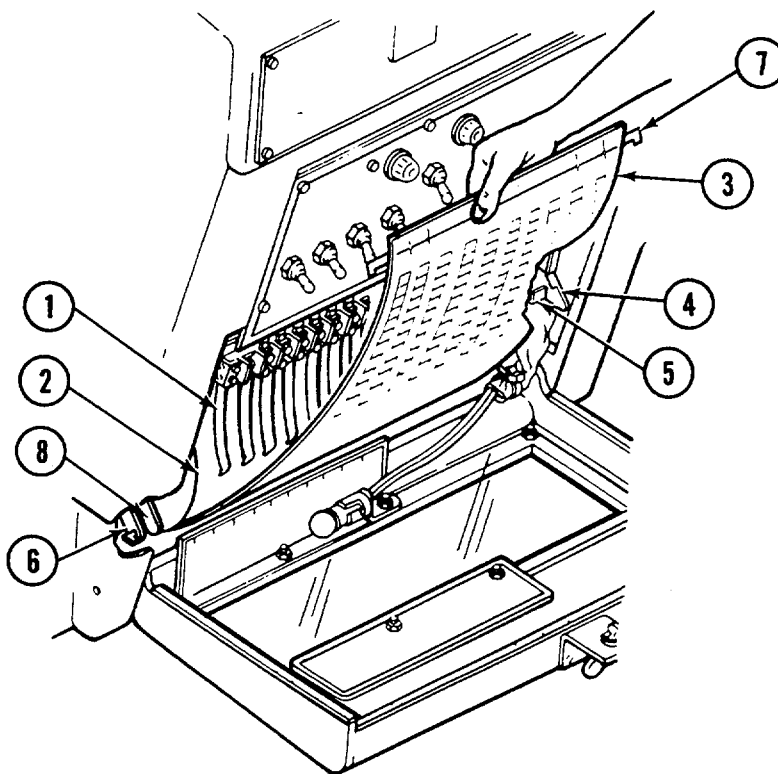

Figure 2-22 . Formula chart replacement .
- (e) Release the end of formula chart (3) attached with spring-loaded clamps (6) by pulling down on the right and left spring-loaded clamps and withdrawing formula chart bar (7).
- (f) Release the opposite end of formula chart (3) by withdrawing formula chart bar (7) from right and left stationary clamps (8).
- (g) Carefully remove formula chart (3) from cylinder (2) by pulling outward on the end of the chart that was secured by spring-loaded clamps (6).
- (2) Install formula chart as follows:
- (a) With contact fingers (1, FIG. 2-22) locked in place on cylinder (2), turn the cylinder until the fingers are at the start position on the cylinder.
- (b) With formula chart (3) held so that the minute markers are in descending order, top to bottom, attach the bottom of the chart to right and left stationary clamps (8).
- (c) Turn cylinder (2) until formula chart (3) wraps around the cylinder. The right edge of the chart must be even with the right edge of the cylinder.
- (d) Unlock contact fingers (1) from cylinder (2) by pushing contact finger locking bar (4) in slightly. While holding the locking bar in, pull locking clamp (5) up and release the locking bar.
- (e) Pull contact finger locking bar (4) up and out and up until contact fingers (1) are not in contact with cylinder (2).